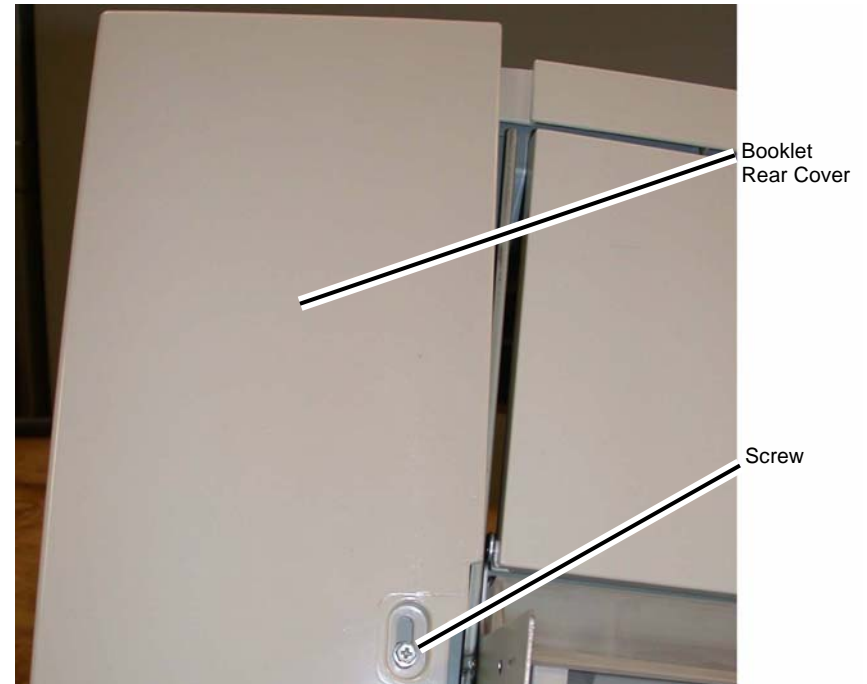

Figure 2 Removing the Booklet Rear Cover
- (3) Remove the Screw (1) (Figure 2).
- (4) Remove the Booklet Rear Cover.